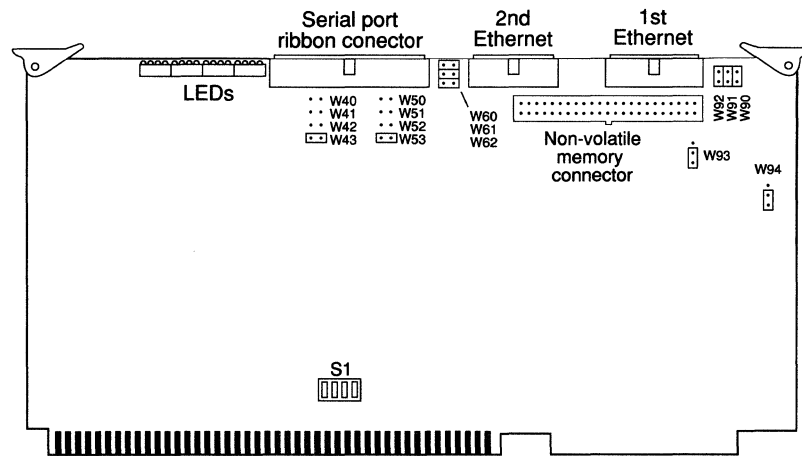

Figure 5-29 MCI Card — Component Side View
The Cisco Systems Multiport Communications Interface (MCI) card provides up to two Ethernet ports and one 50-pin serial interface that supports up to two synchronous serial ports by means of a split 50-pin cable and ribbon connector. The MCI card also supports the CSC-MC nonvolatile memory card. This memory is attached to the MCI card by a special 50-pin connector located just behind the Ethernet connectors; see Figure 5-29.
- Step 3:** Select jumper settings. Refer to Figure 5-29 for a view of the 16 jumper areas and the one dip switch, S1.
- Jumpers W94 and W93 are 3-pin jumpers that select between Ethernet and IEEE 802.3 electrical levels. Using the orientation shown in Figure 5-29, place a jumper on the lower pair of pins to select IEEE 802.3 or Ethernet Version 2, or on the upper pair of pins to select Ethernet Version 1.